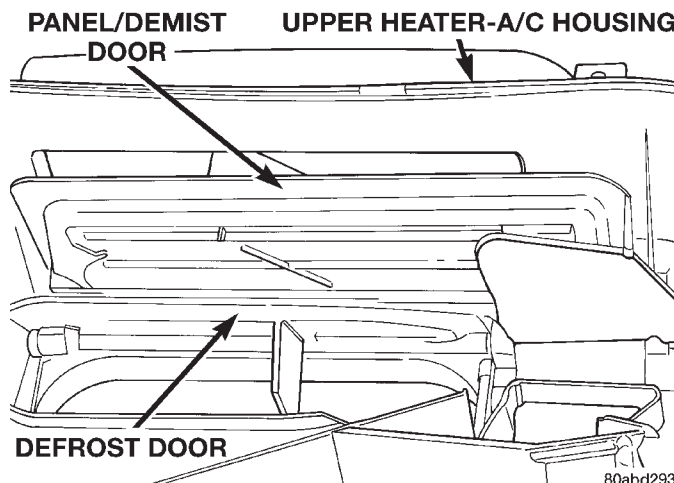

Fig. 52 Panel/Demist and Defrost Doors
(4) Reach inside the upper half of the heater-A/C housing and carefully flex the panel/defrost door (Fig. 52) enough so that the door pivot clears the pivot hole in the housing.
- (4) Reach inside the upper half of the heater-A/C housing and carefully flex the defrost door (Fig. 52) enough so that the door pivot clears the pivot hole in the housing.
- (5) Remove the defrost door from the heater-A/C housing.
- (6) Reverse the removal procedures to install.